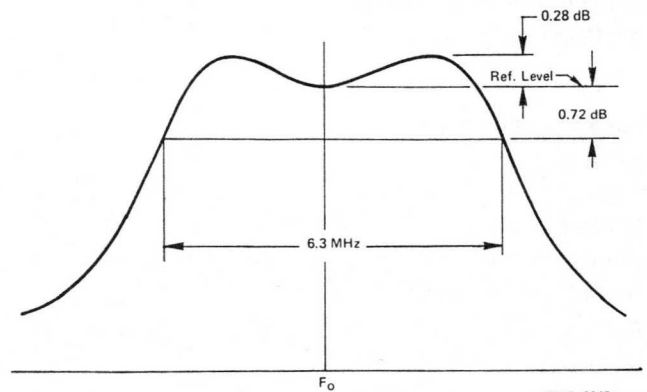

Figure 3 – Bandwidth Calculation
- r The bandwidth of 6.3 MHz is calculated at the -0.72 dB power points of a double tuned output circuit using two times the tube output capacity and a damping factor of $\sqrt{1.5}$ as shown in Figure 3.